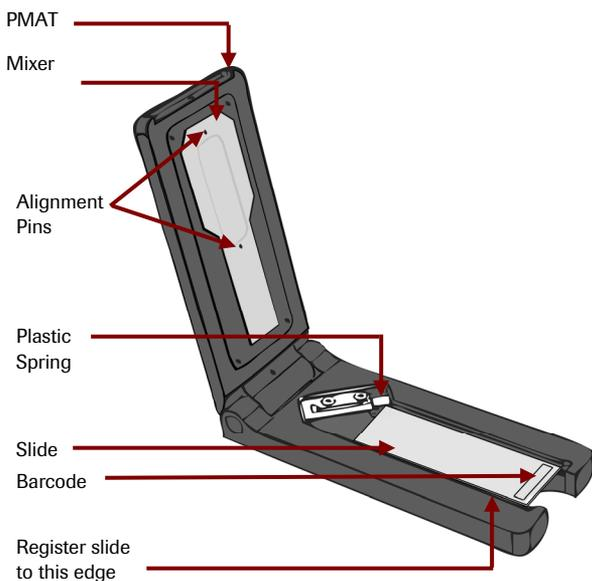

Figure 3: PMAT with X1 Mixer and Slide
2. Position the Precision Mixer Alignment Tool (PMAT) with its hinge on the left. Open the PMAT (Figure 3).
3. Snap the mixer onto the two alignment pins on the lid of the PMAT with the tab end of the mixer toward the inside hinge and the mixer's adhesive gasket facing outward (Figure 3).